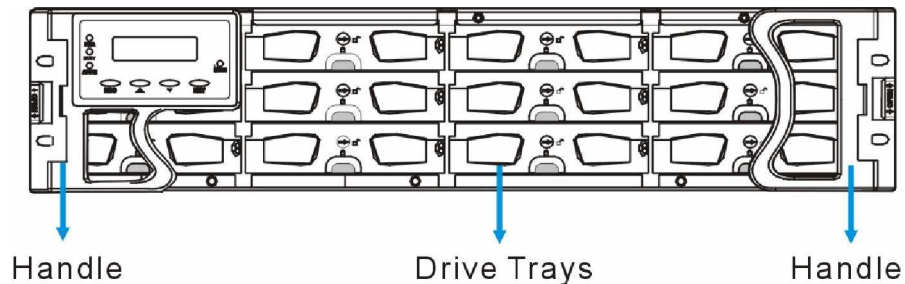
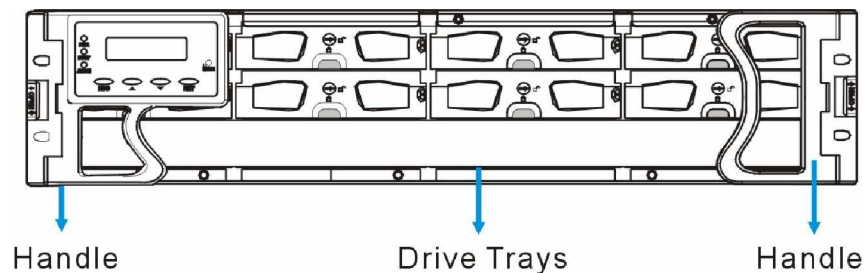

Figure 1-5: Front View – 12-bay Model
Figure 1-6: Front View – Falcon2 8-bay Model
The front section of the subsystem features a 4 x 2 or 4 x 3 layout for eight (8) or twelve (12) 3.5-inch disk drives and a foldable LCD keypad panel. The front panels of the RAID subsystems described in this manual are shown in **Figure 1-5** and **Figure 1-6**. A description of each front panel component is given below:
The front panels shown in **Figure 1-5** and **Figure 1-6** are designed to accommodate the following components: